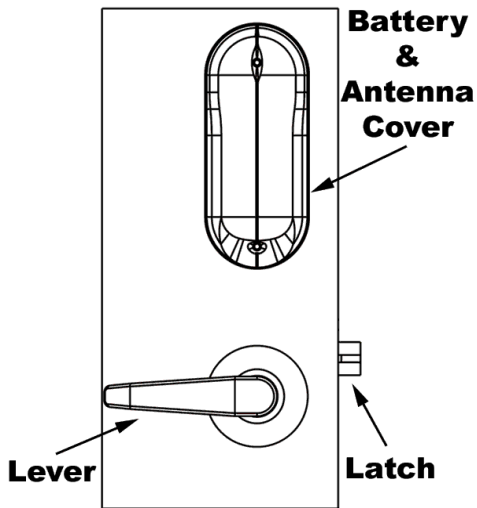
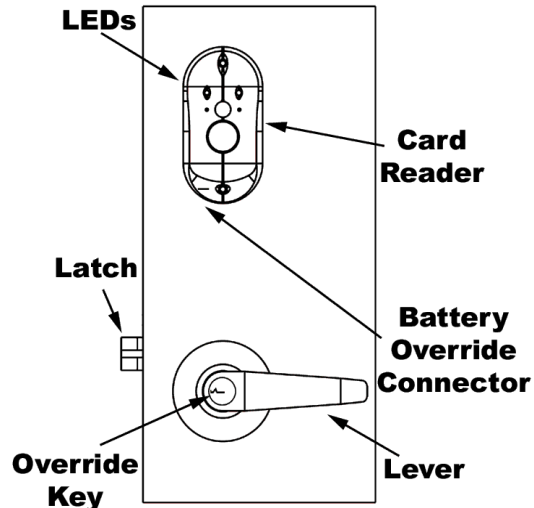
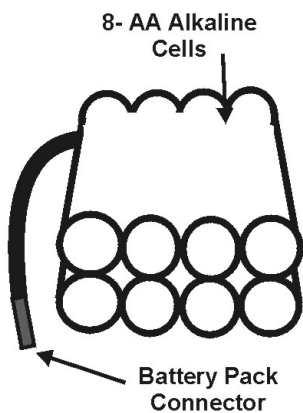
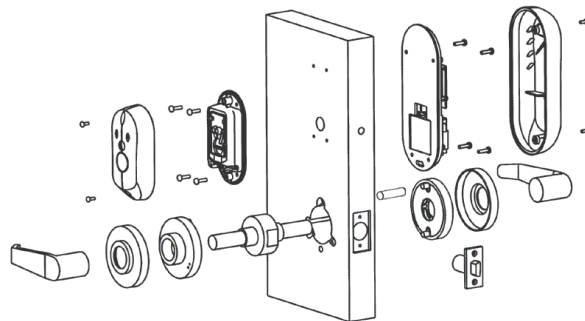

Figure 1-2 – Unlocked Side of the MIRL (Transceiver side)
Figure 1-3 – Locked Side of the MIRL (Reader Side)
Figure 1-4 –MIRL Battery Pack
Figure 1-5 – Exploded MIRL
The MIRL Standard Cylindrical includes 7 components (Figure 1-2, Figure 1-3, Figure 1-4, and Figure 1-5):
The mounting location of the MIRL is fixed by the location of the door. Best RF performance is achieved when the MIRL Antenna Cover (Figure 1-2) can never be within 4" of any metal object whether the door is closed or open. This does not include any metal that maybe in the door or door frame. The MIRL Antenna Cover is located just above the Cylindrical Lockset on the unlocked side of the door (Figure 1-2).
- 2.5.1.1.4 On the side of the door where the reader is to be installed, write the word “READER” on only that piece of masking tape (Figure 1-3).
- 2.5.1.1.5 On the other side of the door, write the word “TRANSCEIVER” on only that piece of masking tape (Figure 1-2).